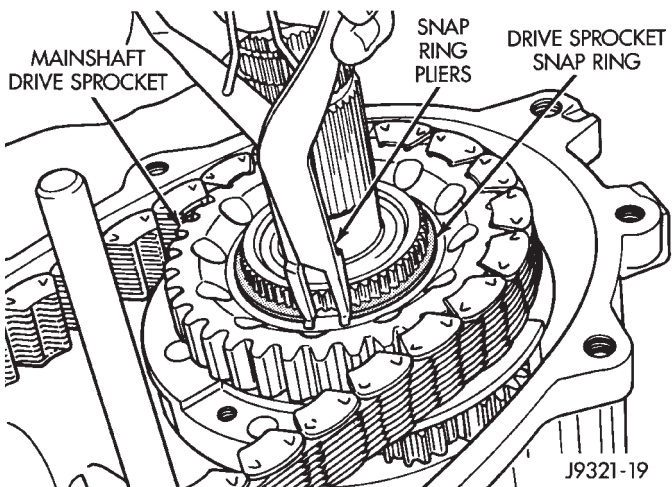

Fig. 19 Removing Drive Gear Snap Ring
(19) Remove drive gear snap ring (Fig. 19).